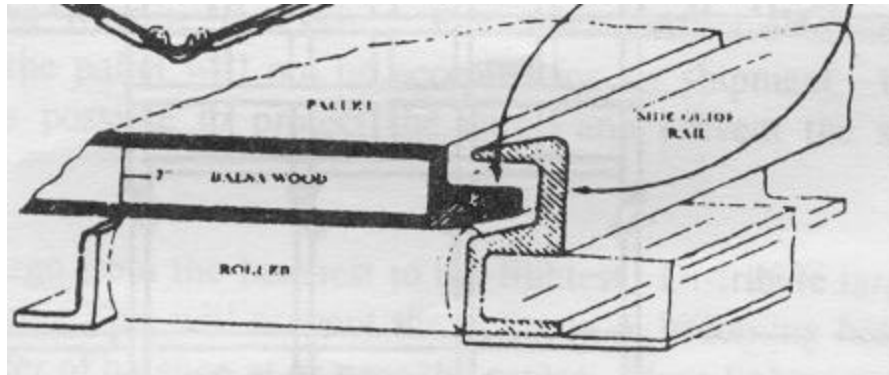
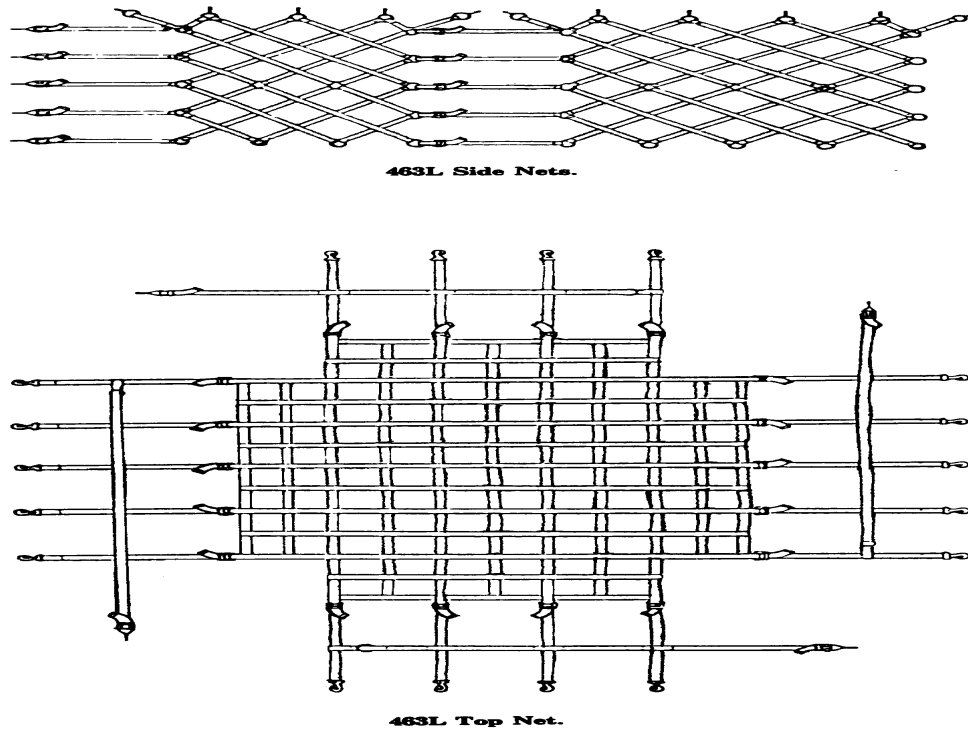

Figure 1
Figure 2
(1) The rollers allow for the ease of loading/unloading of palletized cargo.
(2) The side rail guides direct the pallets into the aircraft and provide lateral and vertical restraint (see figure 1, note 2). The side rails have detent locks that hold the pallet securely, preventing the forward and aft movement during flight.
b. 463L Pallet Construction. The 463L pallet is made of corrosion resistant aluminum with a soft wood core framed on all sides by aluminum rails (see figure 1, note 1). These rails have 22 rings attached, six rings on each long side and five rings on each short side. The rails also have indents (notches) to accept the detent locks.
(1) Dimensions. The overall dimensions of the 463L pallet are 108 inches wide by 88 inches long by 2-1/4 inches thick (see figure 1). However, the **usable** dimensions are 104 inches wide and 84 inches long. This allows 2 inches around the pallet for attaching nets, straps, or other restraint devices.
(2) Weight. An empty 463L pallet weighs 290 pounds (355 pounds with the nets) and has a maximum netted load capacity of 10,000 pounds.
c. 463L Pallet Nets. There are three nets to a set; one top net and two side nets (see figure 2). A complete set of nets weighs 65 pounds and will provide adequate restraint for 10,000 pounds of cargo when properly attached.